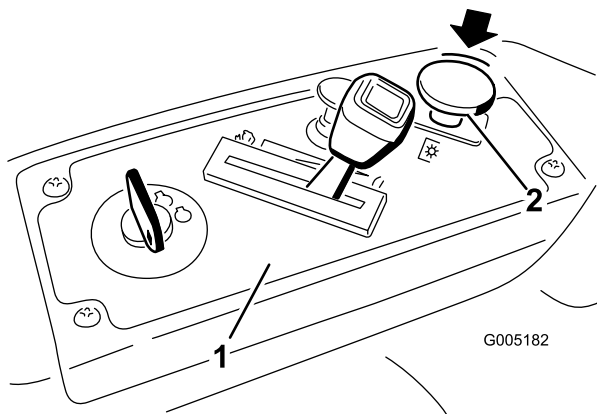

Figure 8
2. Disengage the blades by moving the blade control switch to Off (Figure 8).
- Disengage the blades by moving the blade control switch to Off (Figure 8).